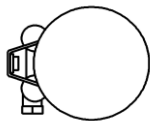
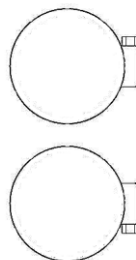

FIGURE 3B
FIGURE 3C
13. Slide the supplied 27-61MSC clamp onto the supplied left muffler and install onto the left crossover pipe assembly. See Figure 3B for clamp alignment. Reinsert the (2) stock 5/16-inch bolts into rear muffler mount. See Figure 4. Repeat on right side (mirror/reverse clamp orientation from that shown in Figure 3B). **Do not tighten** clamps or bolts at this time.
14. Tighten the 5/16 hex bolt and (2) allen bolts on the crossover support bracket, then fully tighten the flange nuts on the exhaust port studs, followed by the 3/8" carriage bolt and nut on the front headpipe support clamp. Next fully tighten all (4) 27-61MSC clamps (NOTE: If the clamps are slid past the slots on the expanded inlets the clamps will not tighten properly).
15. Remove heatshields and hose clamps from packaging. Unscrew the hose clamps and feed the tail end of the clamp through the clips on the inside of the heatshields, the larger #28 clamps go to the rear of the heatshields where they will rest on the muffler bodies, smaller ones to the front for the headpipes. The screw end of the hose clamp should be accessible for tightening but not visible when heatshields are mounted to the pipes, See Figure 3C for clamp alignment.